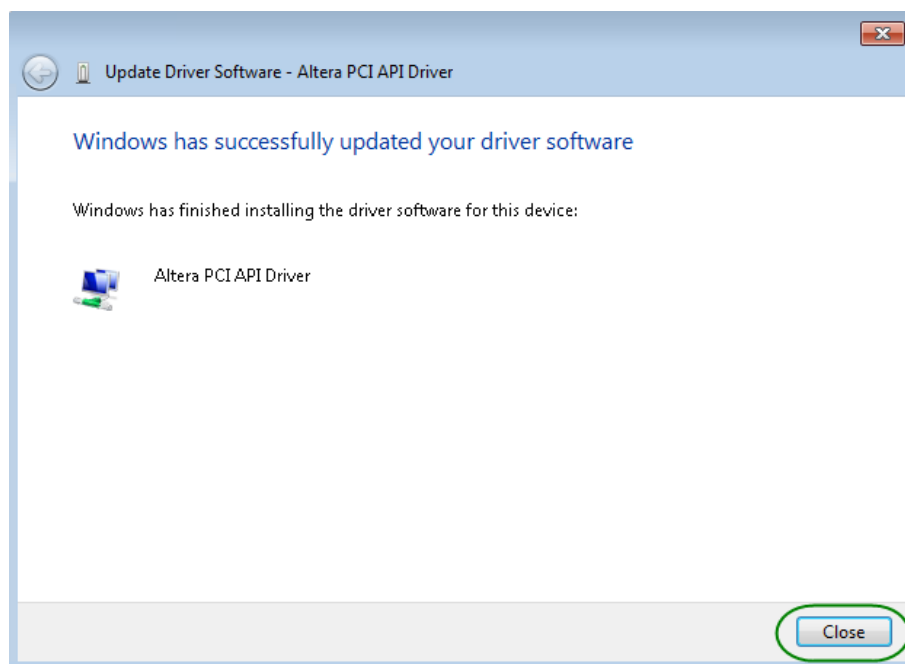

Figure 7-7 Click Close when the installation of Altera PCI API Driver is complete
9. When the driver is installed successfully, the successfully dialog will appear, as shown in **Figure 7-7**. Click the **Close** button.